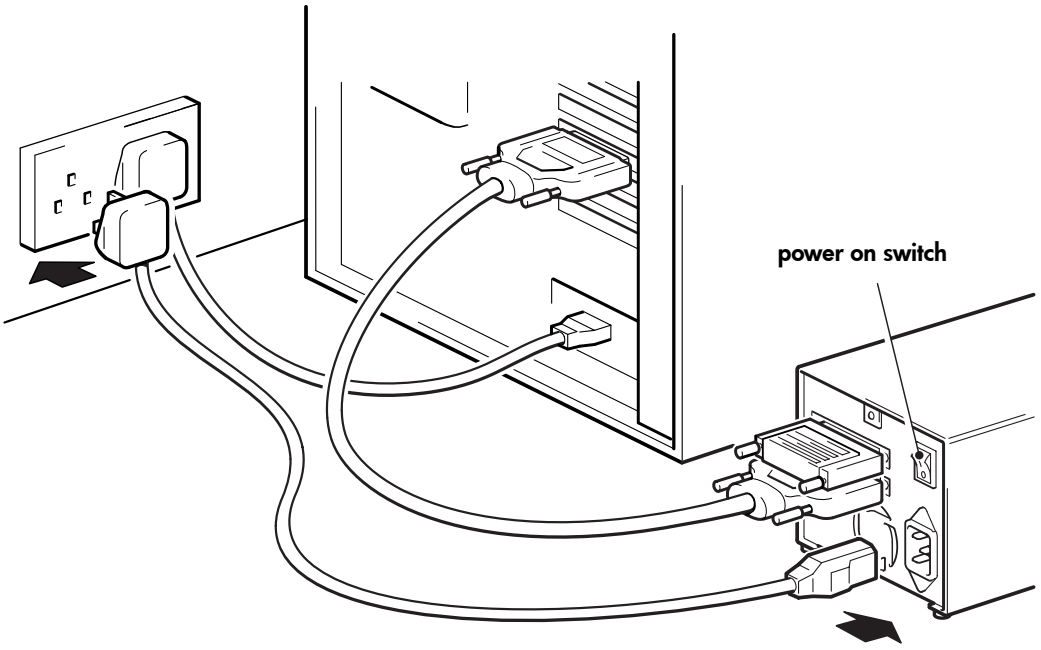

Figure 6: connecting the power cable
- 2 Plug the power cable securely into the socket on the rear panel of the drive. (See figure 6.)